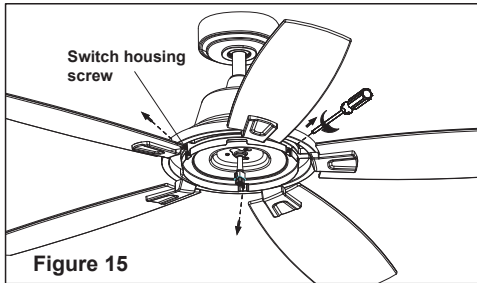

Figure 15
Step 8. Remove all three screws preinstalled on the side of the switch housing and keep for later use. (Figure 15)